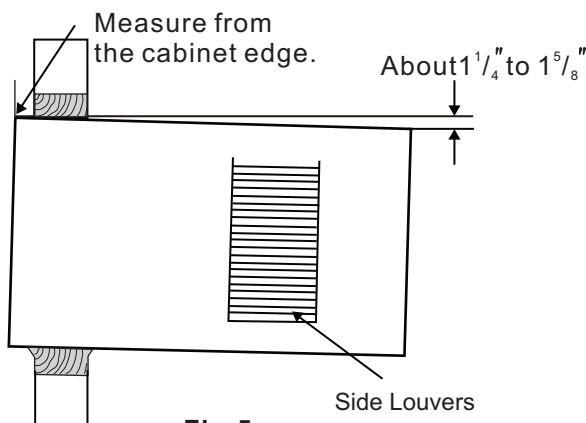

Fig.5
3. Position cabinet to achieve proper slope for water removal. (See Fig.5 below.)